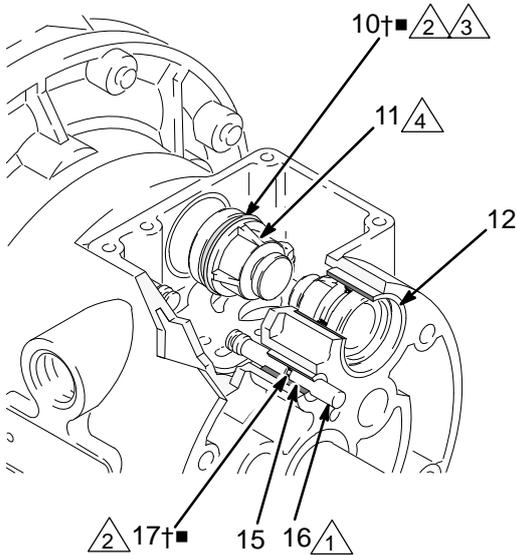

Fig. 9
4. Pull the two actuator pistons (11) out of the bearings (12). Remove the u-cup packings (10) from the pistons. Pull the pilot pins (16) out of the bearings (15). Remove the o-rings (17†■) from the pilot pins. See Fig. 9.
6. Inspect the bearings (12, 15) in place. See Fig. 9. The bearings are tapered and, if damaged, must be removed from the outside. This requires disassembly of the fluid section. See page 20.
4. Install an o-ring (17†■) on each pilot pin (16). Grease the pins and o-rings. Insert the pins into the bearings (15), **narrow** end first. See Fig. 9.
5. Install a u-cup packing (10†■) on each actuator piston (11), so the lips of the packings face the **narrow** end of the pistons. See Fig. 9.
6. Lubricate the u-cup packings (10†■) and actuator pistons (11). Insert the actuator pistons in the bearings (12), **wide** end first. Leave the narrow end of the pistons exposed. See Fig. 9.